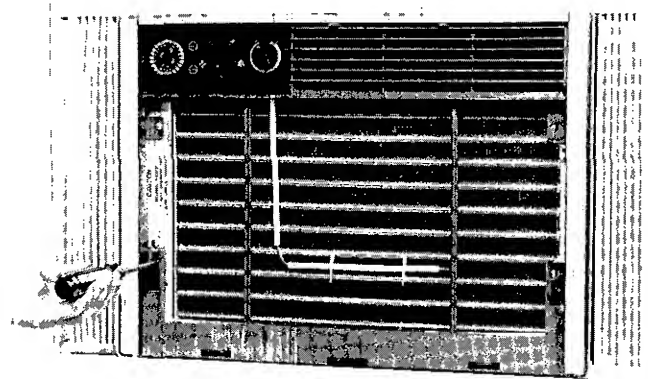

Fig. 4 — Removing Grille Frame Screws
- 3 **Grille Frame** — Grille frame is removed by first removing 4 screws holding frame to chassis. See Fig. 4. Pull top of grille frame outward and lift frame away from chassis.